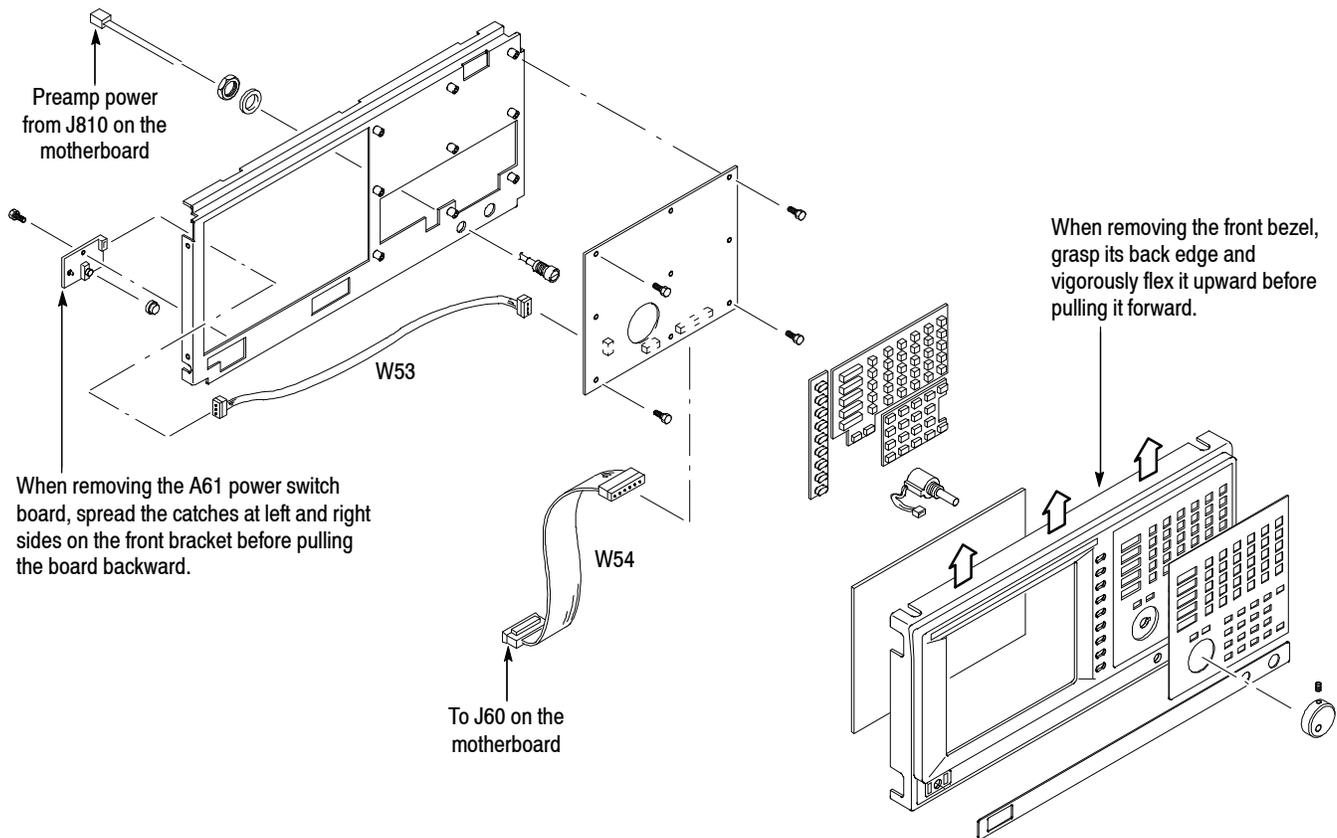

Figure 5-27: Front panel modules removal
3. *Remove the general purpose knob:* See Figure 5-27. Loosen the setscrew securing the knob using the $\frac{1}{16}$ inch hex wrench. Pull the knob away.
4. *Remove the rotary encoder:* See Figure 5-27.
3. *Remove the front bezel and menu buttons:* See Figure 5-27. Grasp the front bezel by its top edge, pry it up, and lift it forward to snap it off of the front bracket. If servicing the menu buttons, lift them out of the front bezel.
3. *Remove the A60 Front key board:* See Figure 5-27.
3. *Remove the A61 Power switch board:* See Figure 5-27.
3. *Remove the preamplifier power connector:* See Figure 5-27. Using the 14 mm nutdriver, remove the nut securing the connector to the front bracket.